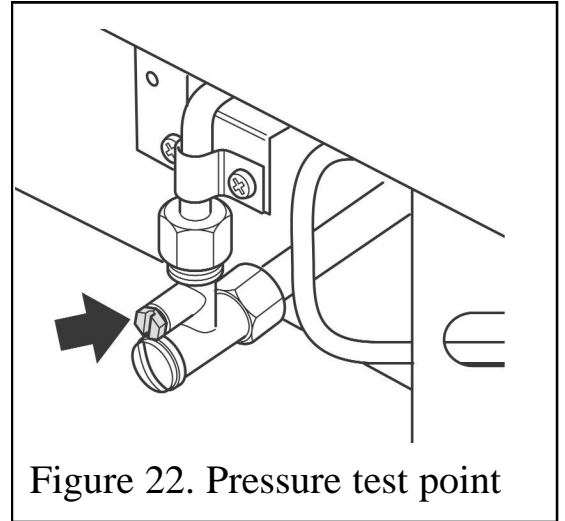

Figure 22. Pressure test point
1. Check the inlet pressure by fitting a pressure gauge at the test point. The test point is on the inlet ‘T’ connector (See figure 22). Check the pressure with the appliance alight